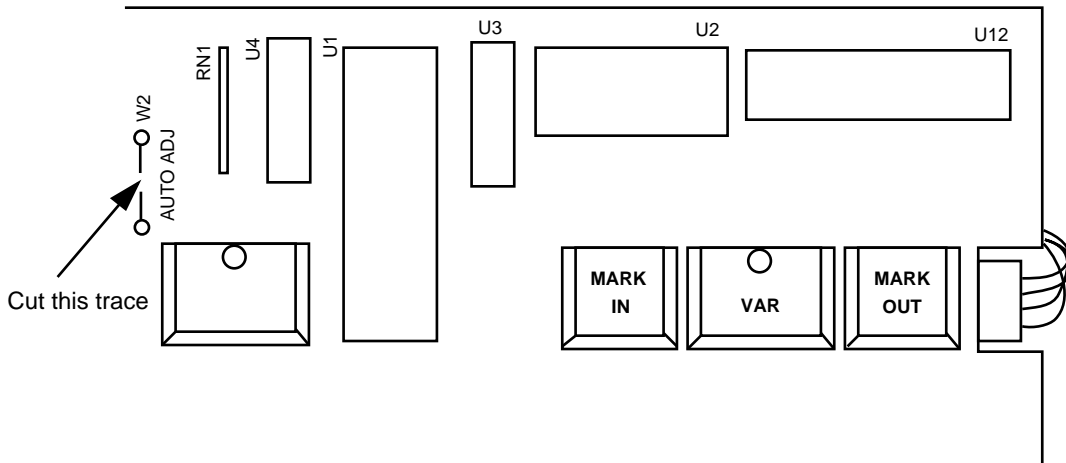

Figure 5. Location of Component Side Trace Cut on Late Model Keyboards
13. **For late model keyboards only**, cut the trace between the two solder pads labelled AUTO ADJ W2 above the right corner of the keyboard on the component side (Figure 5).